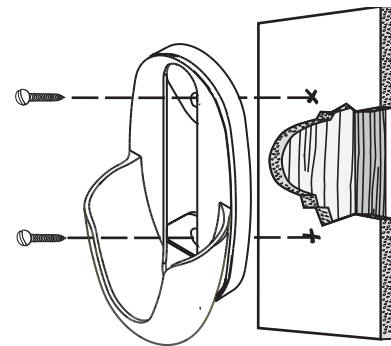

Figure 25 - Installing the remote cradle on the wall
- Orient the remote cradle as shown in Figure 25, over the 2x4 stud.